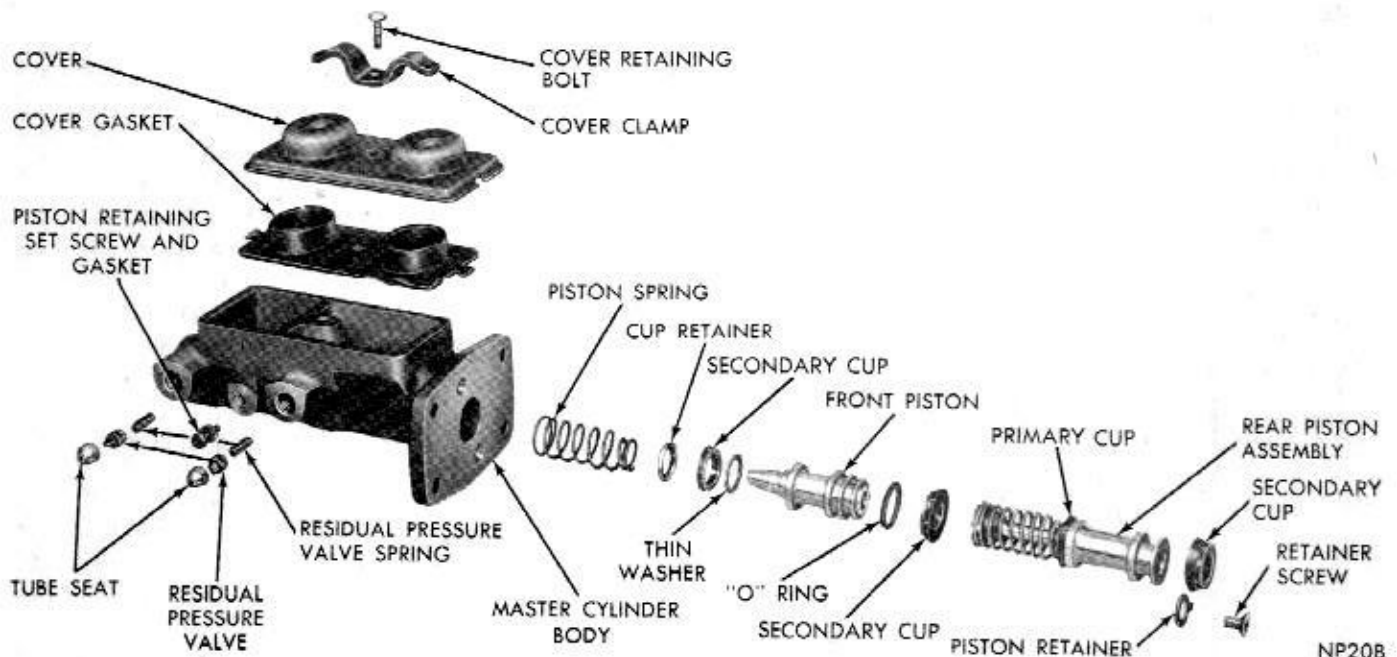

Fig. 4—Tandem Master Cylinder (Exploded View)
(1) Carefully work primary cup on end of front piston with the lip away from piston (Fig. 4).
(2) Slide "O" ring over the rear end of front piston and into correct land.
(3) Carefully work front piston secondary cup (Fig. 4) into rear land, with the cup lip away from piston.
(4) Slide cup retainer over front end of piston, followed by piston spring (Fig. 4).
(1) Carefully work secondary piston cup over rear end of rear piston with lip of cup toward piston (Fig. 4).